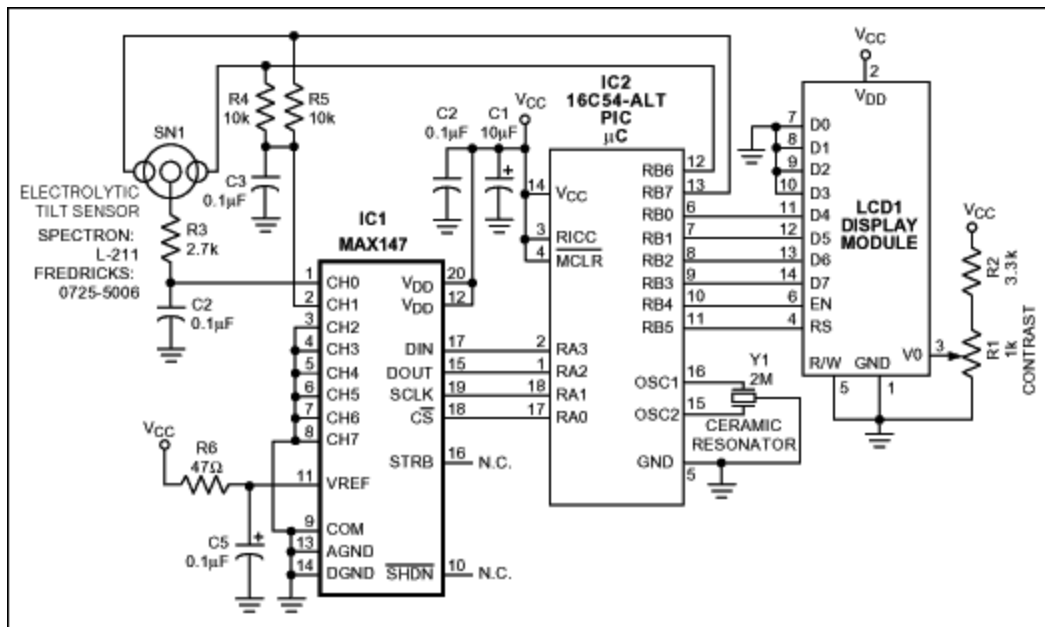

Figure 1. This tilt sensor is simple, accurate, inexpensive, and adjustment free.
**Figure 1** is an inclinometer (tilt-measuring circuit) whose sensor (SN1) is filled with liquid electrolyte. Acting as a potentiometer, the inclinometer produces a voltage proportional to tilt on its center electrode. Because the liquid is subject to electrolysis, the sensor's forcing voltage must be AC with an average DC component of zero. IC1 is an 8-channel, 12-bit analog-to-digital converter (ADC) that digitizes the sensor output for use by IC2, the microcontroller ( $\mu\text{C}$ ).
Conditioning circuitry for this sensor type usually includes op amps, analog switches, and potentiometers. Because potentiometer settings drift with time and temperature, such systems require periodic recalibrations based on a precise and tedious procedure. The synchronous approach shown in Figure 1 not only eliminates the need for calibration, but it also operates from a single-supply voltage as low as +2.7V.